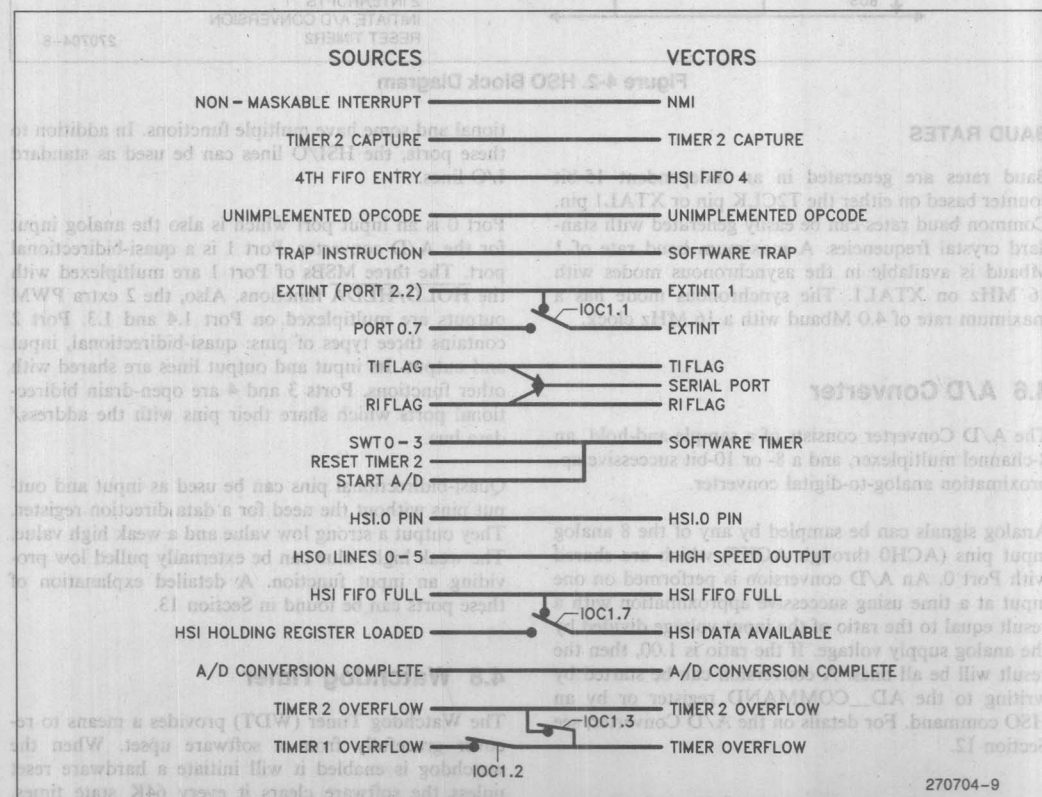

Figure 5-1. 80C196KC Interrupt Sources
Twenty-eight (28) sources of interrupts are available on the 80C196KC. These sources are gathered into 15 vectors plus special vectors for NMI, the TRAP instruction, and Unimplemented Opcodes. Figure 5-1 shows the routing of the interrupt sources into their vectors as well as the control bits which enable some of the sources. The operation of the Peripheral Transaction Server (PTS) is intimately a part of interrupt operation and is discussed in Section 6.